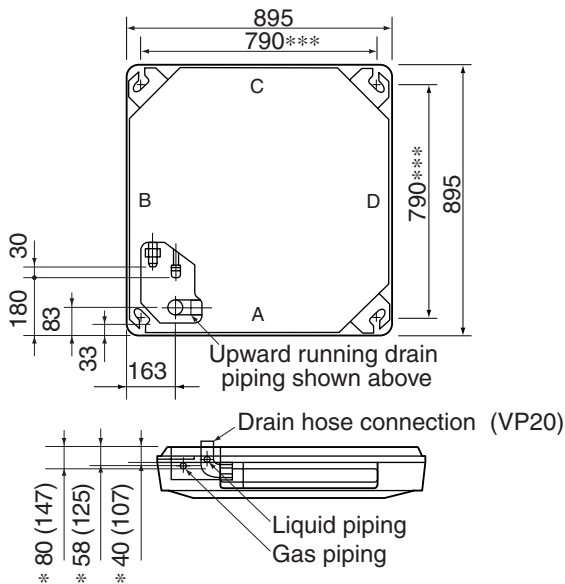

Fig. 2 (length: mm)
1. Relation of holes for indoor unit, suspension bolt position, piping and wiring. (Refer to Fig. 2)